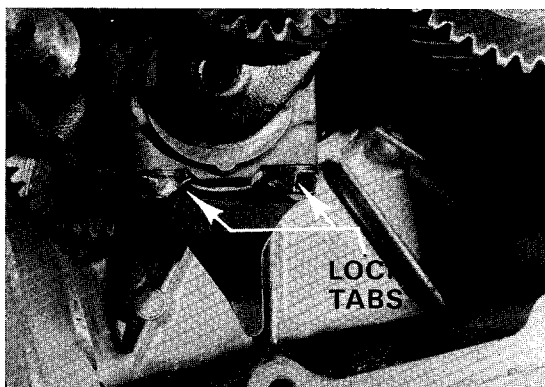

Figure 6-40
8. Install oil splasher arm (99) and lock plate to rod cap so arm and bendable tabs face towards crankshaft output end.
9. Install connecting rod bolts (97), tighten to 29-30 ft.-lbs. torque. Bend lockplate tabs over bolt heads (Figure 6-40).